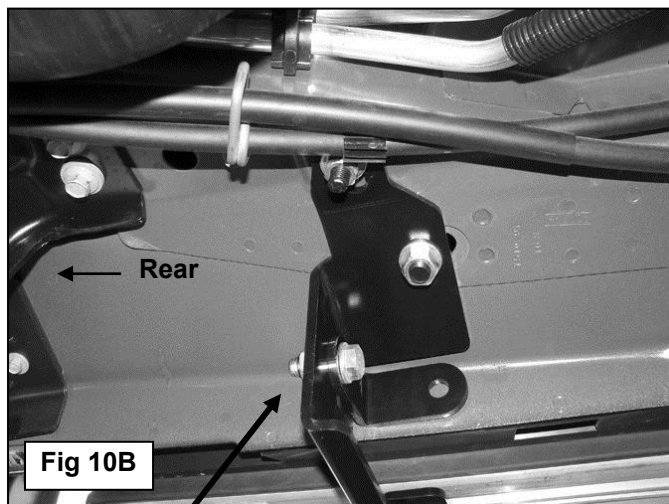

Fig 10B
7. Position the Rear Mounting Bracket over the (2) Bolt Plates. Secure the Bracket to the 12mm Bolt Plate with (1) 12mm Flat Washer, (1) 12mm Lock Washer and (1) 12mm Hex Nut, **(Figure 10B)**. Bolt the Bracket to the 10mm Bolt Plate with (1) 10mm x 27mm OD Large Flat Washer, (1) 10mm Lock Washer and (1) 10mm Hex Nut. Snug hardware but do not tighten at this time.
8. Next, select (1) "L" rear Support Bracket, **(Figure 10A)**. Bolt the Support Bracket to the front facing side of the rear Mounting Bracket with (1) 10mm x 30mm Hex Bolt, (2) 10mm x 20mm STD Flat Washers and (1) 10mm Nylon Lock Nut, **(Figures 10B)**. Do not tighten hardware at this time.